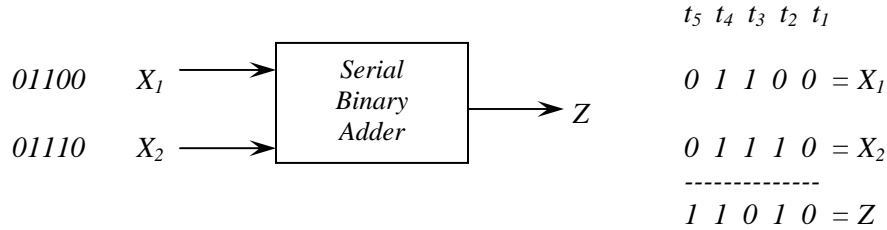

Figure 4: Block diagram of a serial binary adder circuit.
- a) Consider a Serial Binary Adder whose block diagram is shown in figure 4 below. Draw a state diagram for this adder.